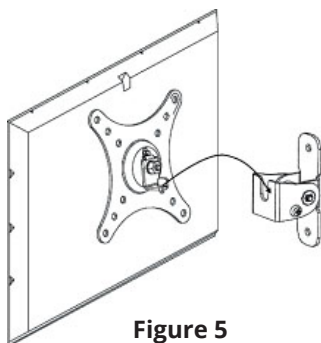

Figure 5
1. Hang the display plate onto the top of the wall plate and slip it into the wall plate as shown (Figure 5).